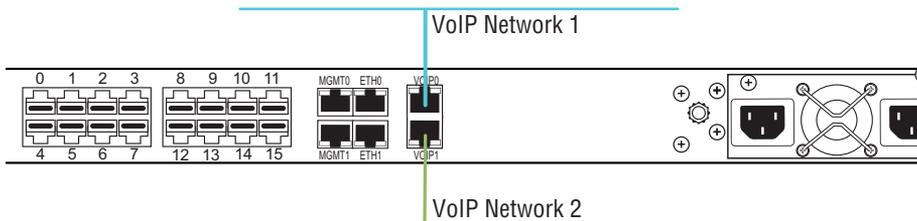

Figure 2. Connecting the VoIP ports
1. Connect the VoIP Ports 0/1 and 0/1 to your network (see **figure 2**).